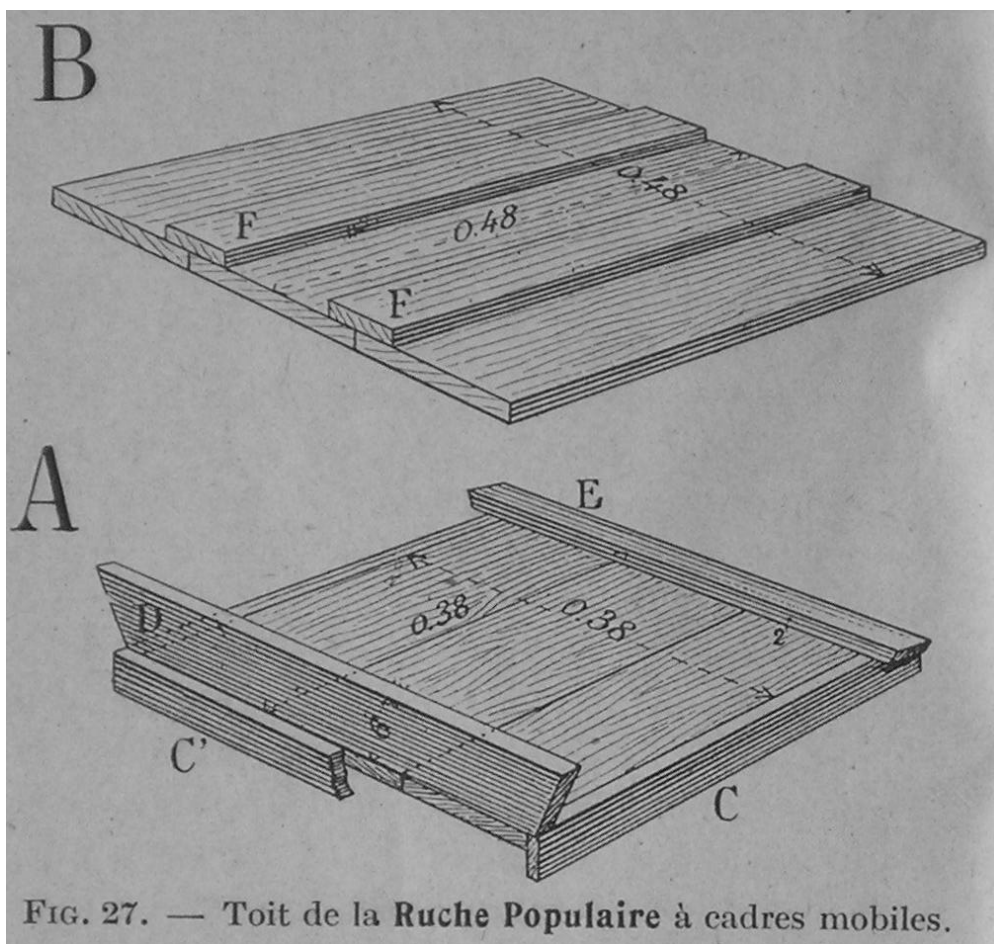

FIG. 27. — Toit de la Ruche Populaire à cadres mobiles.
ROOF – The roof comprises two parts, A and B (fig. 27). Part A is made of several boards of at least 10 mm thick forming a square of 380 x 380 mm. This square is surrounded by a batten about 10 mm thick (fig. 27 C & C'). This batten projects 20 mm downwards to enclose the upper box and to better secure the roof during windy weather. On the part A of the roof are placed two battens. One of them (D) should have a minimum thickness of 20 mm and a height of 60 mm. Its length is 380 mm at the bottom and 480 mm at the top. The other batten (E) should be 20 mm thick and 20 mm high. Its length is 480 mm. It is on these two battens that the part B is fixed. In fig. 27, the parts A and B are separated so the details are visible. Moreover, the difference in height between D and E gives the necessary slope to part B which has to receive the rain.
The part B of the roof comprises one or several boards of a minimum thickness of 10 mm. It should be 480 mm square. This part B of the roof can be painted, or covered with zinc or other sheet metal, bitumenised sheet or the joints simply covered with slats (fig. 27, F).